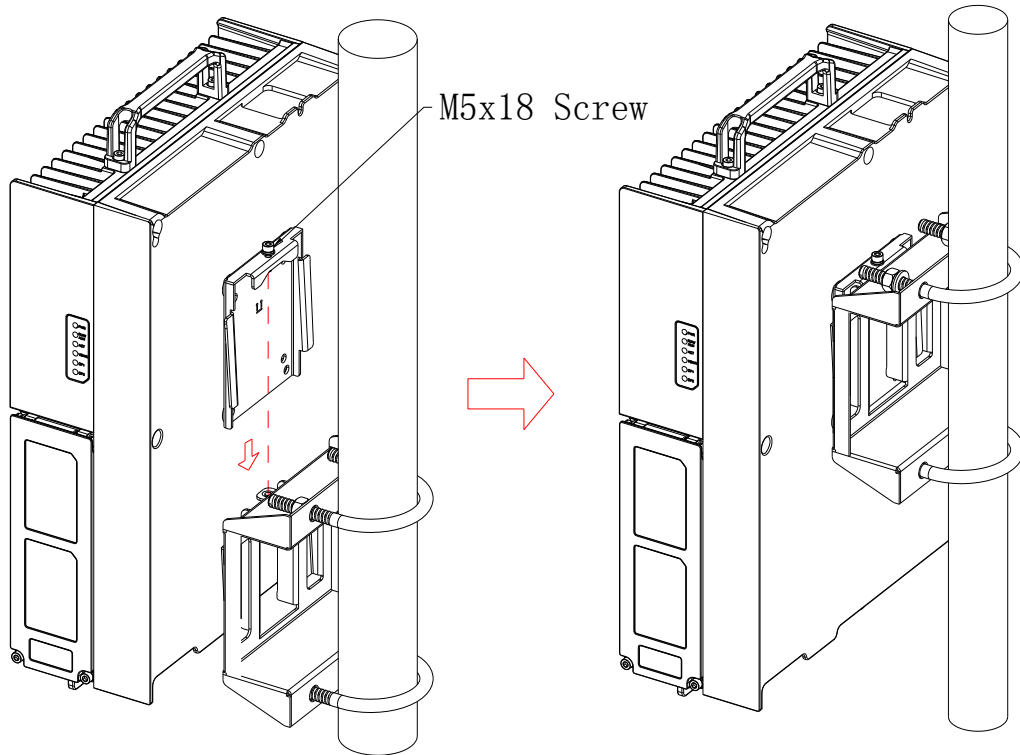

Figure 3 RRH Pole-mount Complete Diagram
Step 3: put the RRH prepared previous in step 1 insert to the mounting bracket 2, and lock the device with M5x18 screw, as shown in Figure 3.